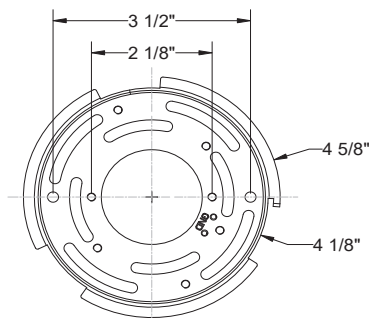

Fig. 2 Wiring
### CONNECTING THE WIRES (Fig. 2)
7. Cut the extra wire. Connect the input's wires to junctionbox wires as shown in Fig. 2, making sure that all wire connectors (A) are secured. If your outlet box has a green or bare copper ground wire, connect the fixture's ground wire to it. Otherwise, connect the fixture's ground wire directly to the mounting plate using the green screw provided. After wires are connected, tuck them carefully inside the junction box.
8. Place the fixture over the mounting back plate and secure with mounting screws (B).